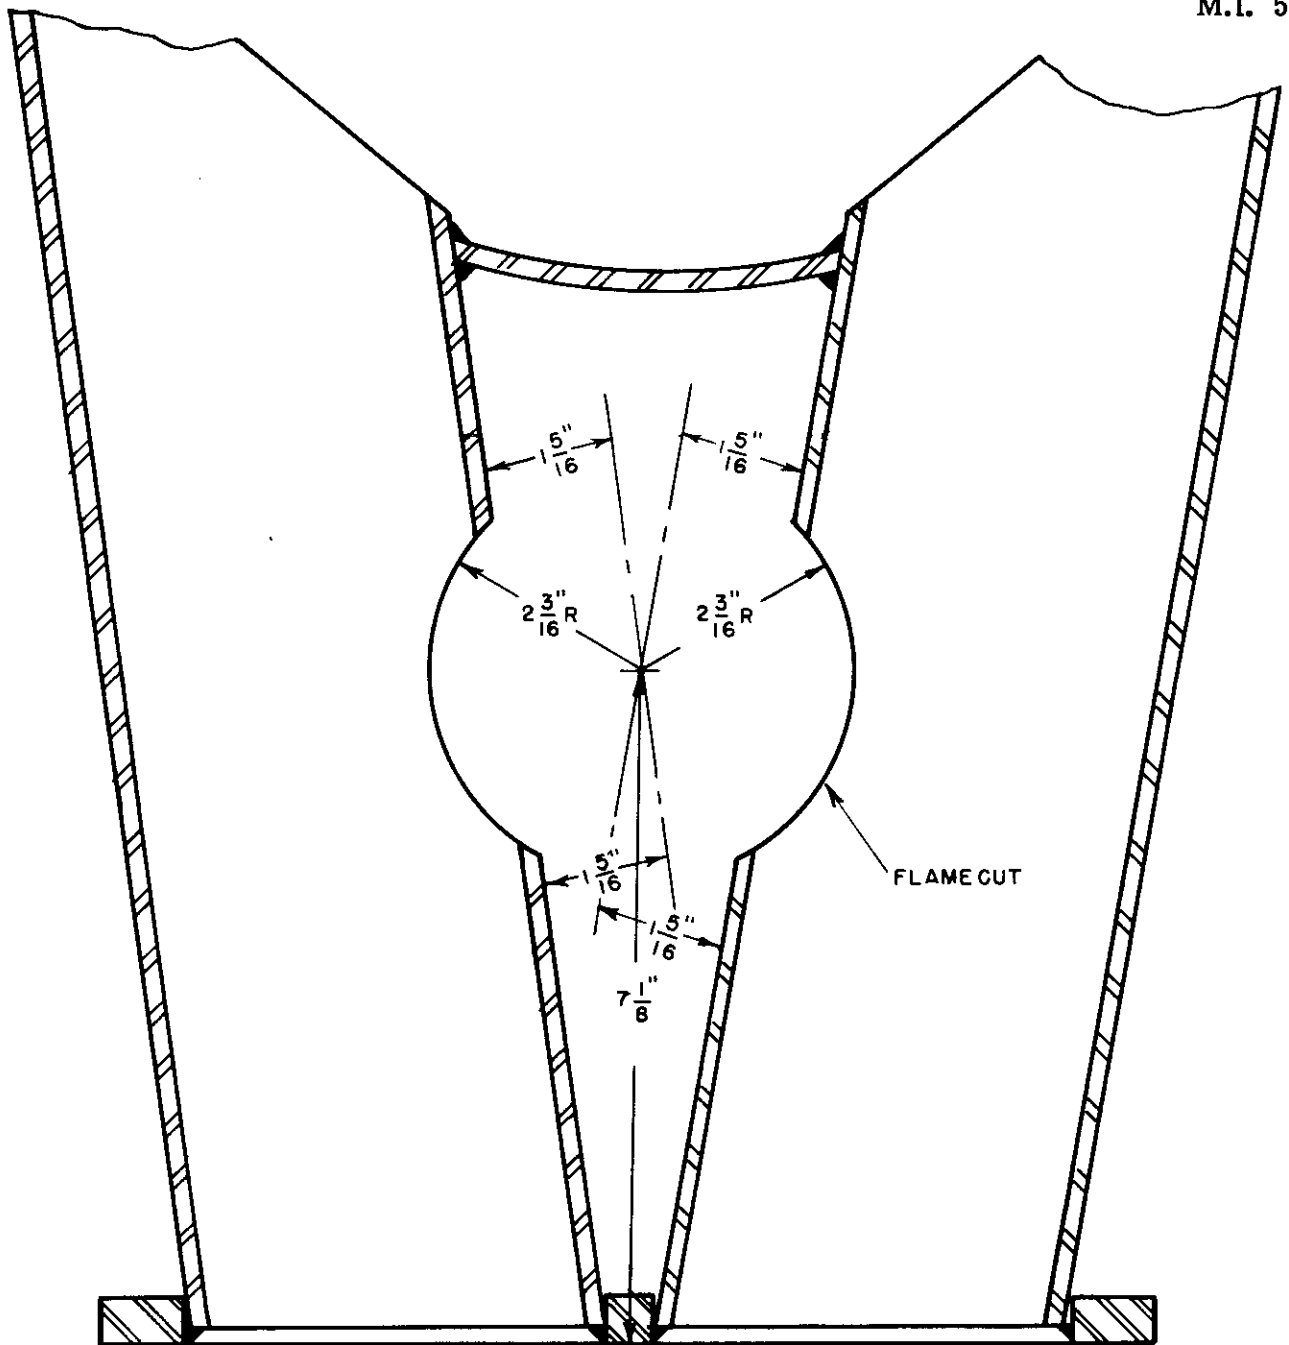

Fig. 2 - Alteration To Rear Manifold Legs
9. Notch out the two rear legs by flame cutting, as per Fig. 2. To prevent excessive distortion it is suggested that the legs be wrapped with wet rags below the notches.